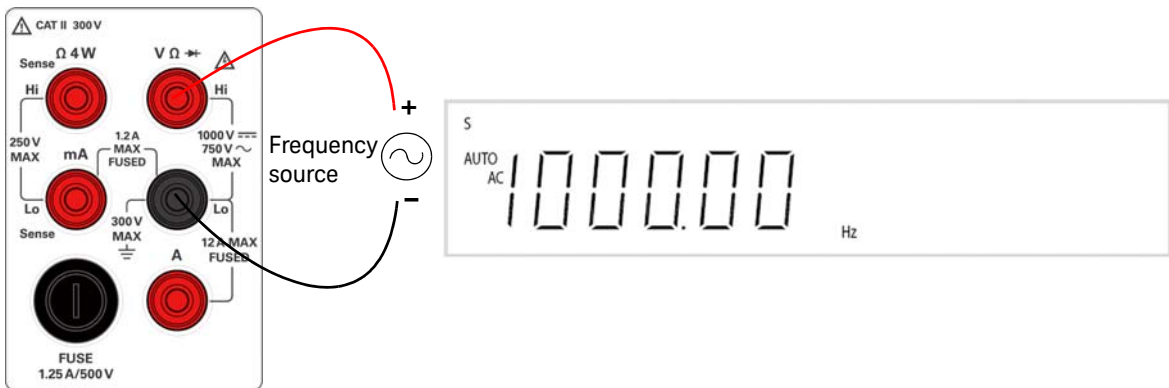

Figure 1-14 Frequency terminal connection and display
- 2 Connect the red and black test leads to the input terminal as shown in Figure 1-14.